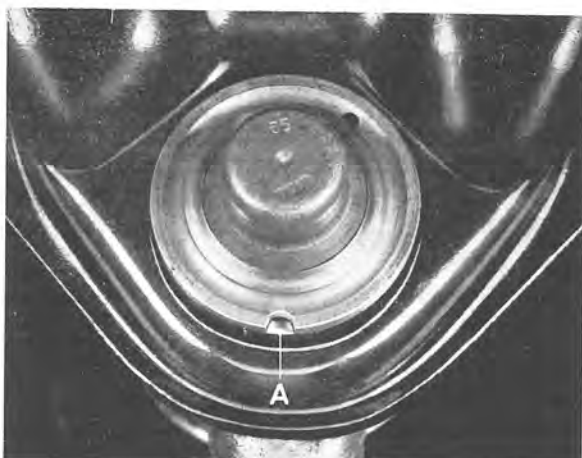
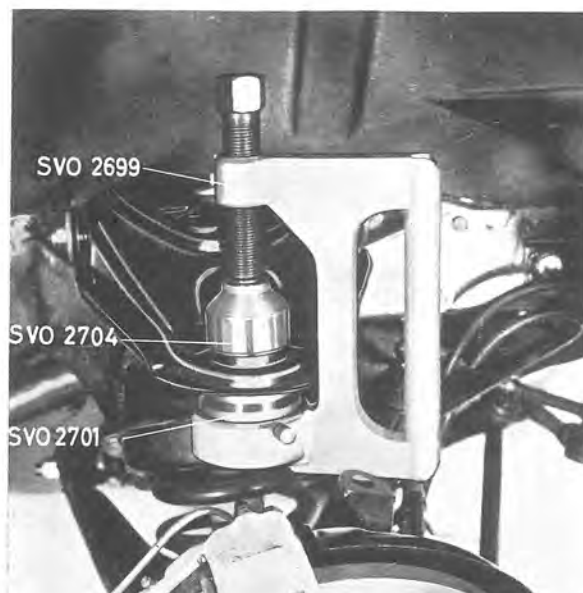

Fig. 6-22. Location of ball joint in upper control arm
Fig. 6-23. Installing upper ball joint
1. Before installing the ball joint, check that the rubber seal is filled with grease. Bend the pin end over the slot (A, Fig. 6-22) and check that the grease forces its way out. If necessary, top up with multipurpose grease.
2. Press the ball joint into the control arm with press tool SVO 2699, sleeve 2701 and drift 2704, see Fig. 6-23. Make sure that the ball joint recess coincides with the longitudinal shaft of the control arm (within $\pm 8^\circ$) either externally or internally (Fig. 6-22) as the pin has maximum movement along this line. Should the ball joint be incorrectly fitted when being pressed in, turn the tool SVO 2699 half a turn and then press the ball joint into the correct position. The ball joint must not be loose in the control arm.